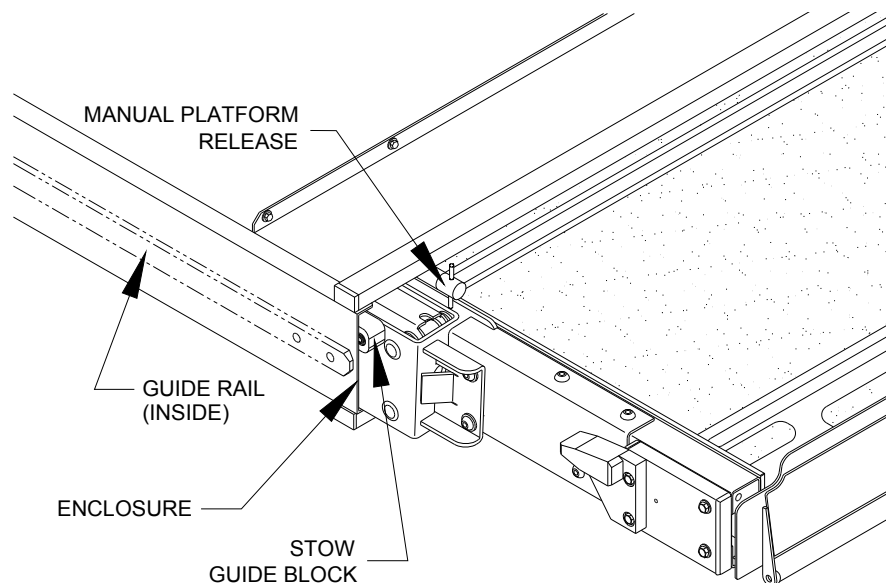

FIGURE 2-15: STOW GUIDE BLOCK ALIGNMENT
- 3) Refer to **Figure 2-15**. Release manual platform lock, and then hand-push platform into enclosure. Stop pushing when front face of white stow guide block (tear-drop shaped plastic block) is adjacent to front edge of enclosure. The stow guide block will be visible from front of lift.
- 3) Refer to **Figure 2-15**. The mating connector for the optional programming switch is attached to the underside of the controller bracket. The connector is protected with a removable plug. Connect programming switch to connector.